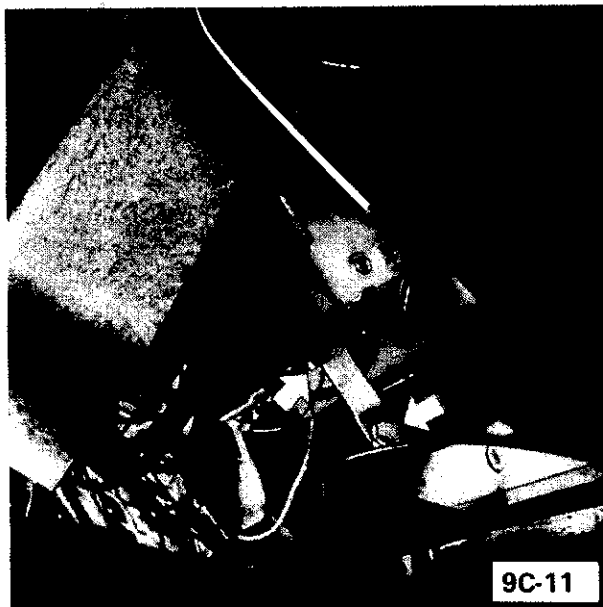

Figure 9C-16 Support Bracket
2. Unscrew two (2) **hex. nuts behind** and remove ornamental cover plate.
3. Unscrew support bracket from back of radio housing and air distribution housing. See Figure 9C-16.